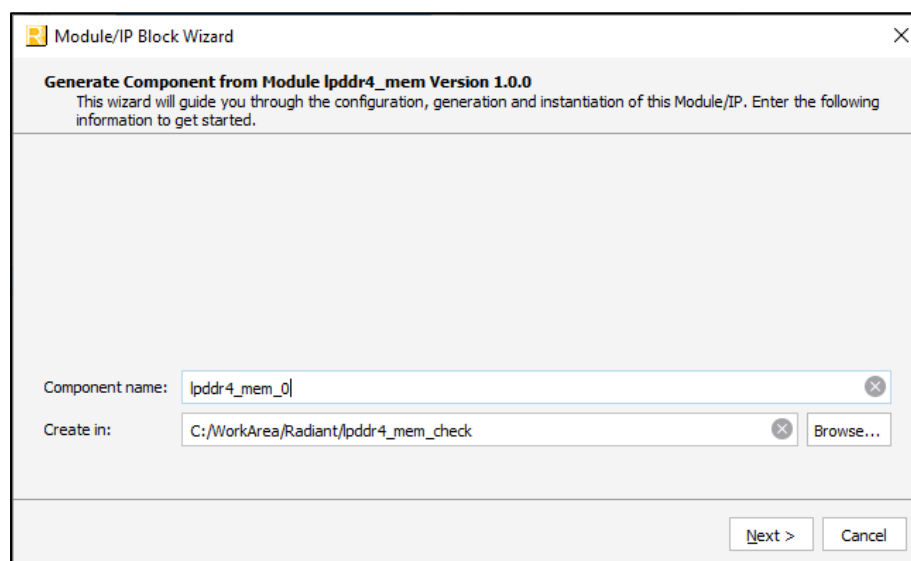

Figure 3.1. Module/IP Block Wizard
2. In the **IP Catalog** tab, double-click on **LPDDR4_MEM** under **Module, Architecture_Modules, I/O** category. The **Module/IP Block Wizard** opens as shown in Figure 3.1. Enter values in the **Component name** and the **Create in** fields and click **Next**.
- Click **Finish** to generate the Verilog file. All the generated files are placed under the directory paths in the **Create in** and the **Component name** fields shown in Figure 3.1.